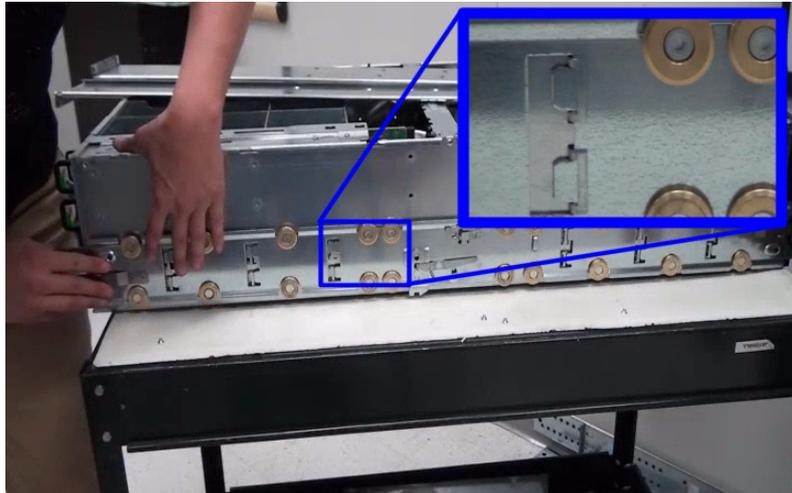

Figure 1-19 Lock on to Support Tabs
3. Slide the rolling rail beneath the support tabs on the side of the chassis until it locks firmly into place (Figure 1-19).